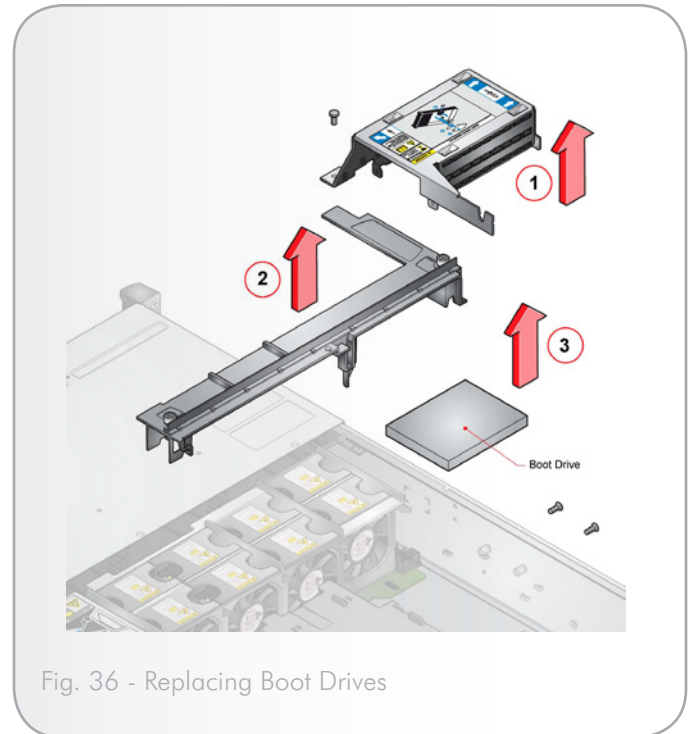

Fig. 36 - Replacing Boot Drives
5. To remove the module, release the single securing screw at the top of the module and the two screws at the side of the enclosure (see Fig. 36).